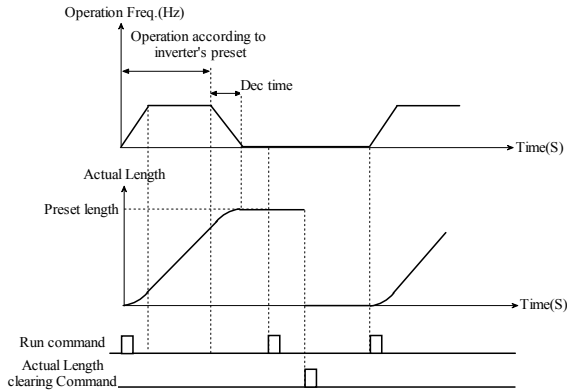

Fig. 5-8-1 Fixed length control diagram
- ◆ If the actual length (P8.01) is less than and nearly to the preset length (P8.00), the inverter will decelerate and run at low speed automatically. When actual length (P8.01) $\geq$ preset length (P8.00), the operating frequency will be zero, and the inverter will stop according to the stop mode. When the inverter restarts, it needs to clear the actual length or increase the preset length. The preset length (P8.00) must be larger than the actual length (P8.01)), otherwise, the inverter will not start. As shown in Fig.5-8-1.